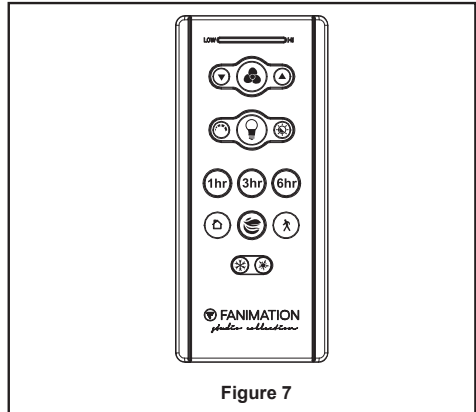

Figure 7
- ☐ **7.** Secure the glass to light kit by twisting in a clockwise direction. Twist the glass gradually **until it snaps onto the light kit**. Do not over-tighten. (Figure 7)
- ☐ 7. Remote functions: (Figure 7)